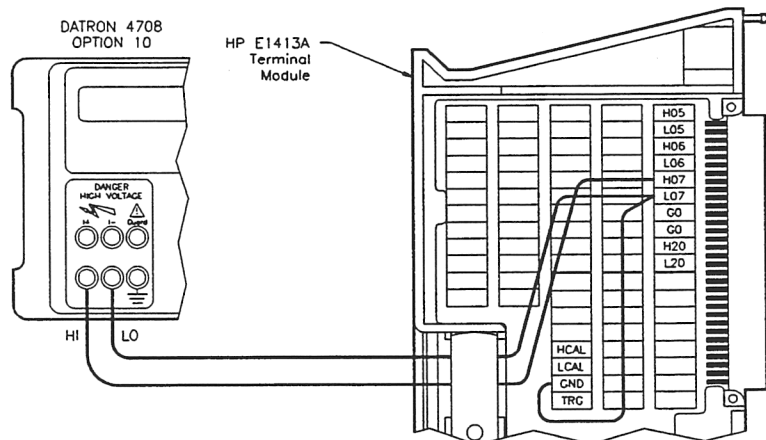

Figure 2-8. DC Standard Connections
- For connections to DC Standard (Datron 4708), see Figure 2-8
- [a] Connect HI and LO leads to DC Standard (see Figure 2-8)